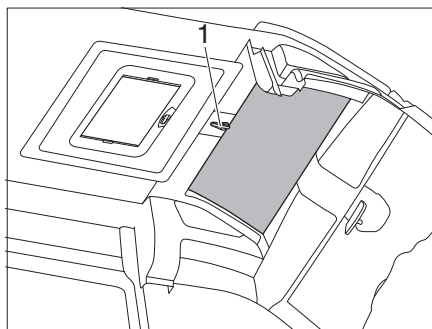

Fig. 76 SkyRoof[®]
- Open the latch and turn the crank a half rotation (Fig. 76,1).